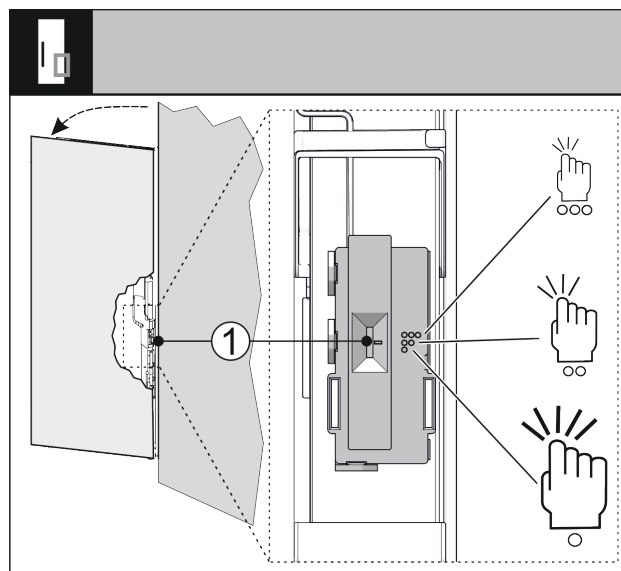

Fig. 71
You can use a switch Fig. 71 (1) to adjust the sensitivity of the knocking sensor. The switch is on the bottom third of the door on the hinge side.
► Move the switch Fig. 71 (1) to the required switch position.